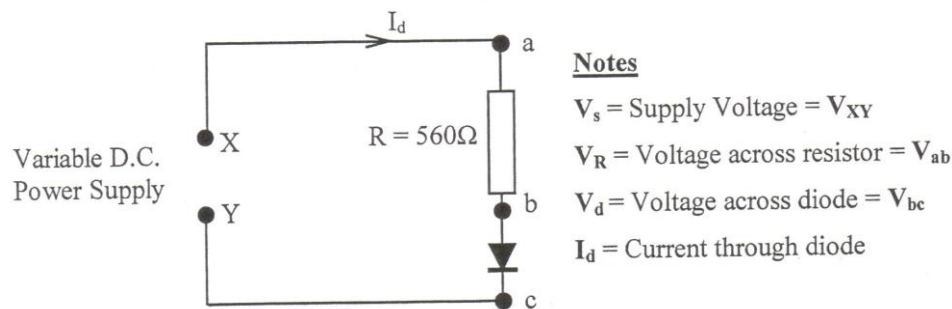

Fig. 4.3: Circuit diagram.
2. Construct (on stripboard) the circuit shown in Fig. 4.3.